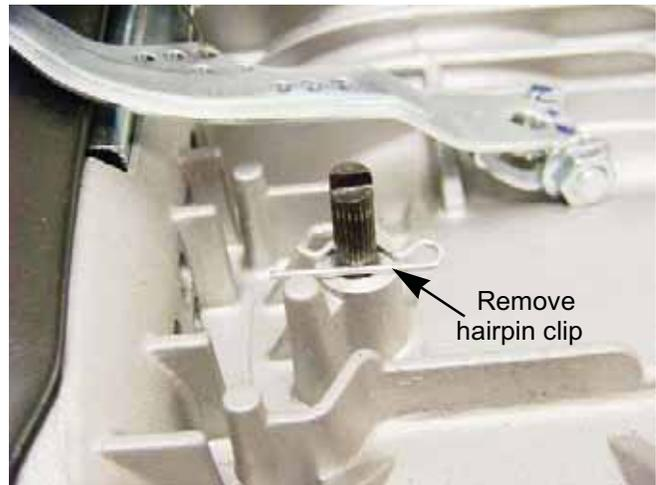

Figure 4.39
5. Remove the hairpin clip from the governor shaft. See Figure 4.39.